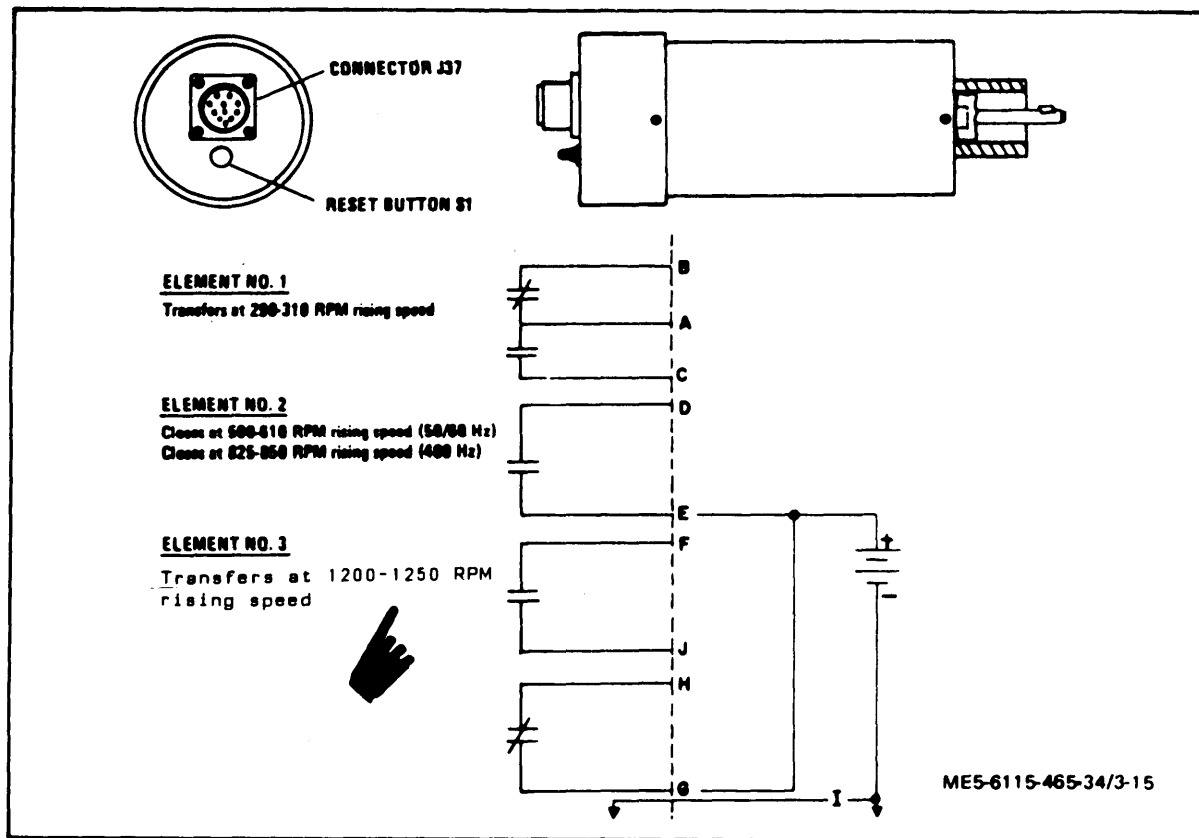

Figure 3-15. Speed Switch Test Points
(1) Tachometer test stand or speed switch tester with O. 187 tach takeoff fitting, capable of operation up to 1225 RPM.
(2) 24 Vdc power supply.
(3) VOM suitable for measuring continuity and 24 volts dc.
(4) Mating connector and cable for MS3102R-18-1P connector.
d. Testing. Refer to figure 3-15 for schematic diagram of pins to be used during test, and perform the following procedures.
(1) Screw the tachometer fitting onto the test stand.
(2) Attach the connector and cable to J37 of the speed switch.
(3) Connect 24 volts dc to pins E, G and I with the polarity indicated in the test circuit.
(4) Using the VOM test for the conditions listed below:
(1) Tachometer test stand or speed switch tester with 0.187 tach takeoff fitting, capable of operation up to 1225 RPM.
e. Testing. Refer to figure 3-15 for schematic diagram of pins to be used during test, and perform the following procedures.
- (1) Screw the tachometer fitting onto the test stand.
- (2) Attach the connector and cable to J37 of the speed switch.
- (3) Connect 24 volts dc to pins E, G and 1 with the polarity indicated in the test circuit.
- (4) Using the VOM test for the conditions listed below: